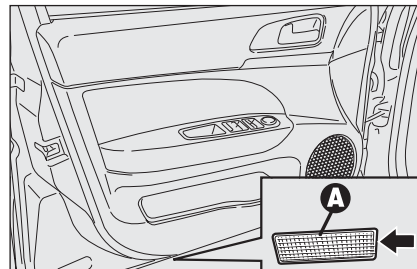
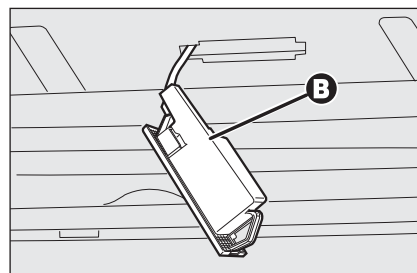

fig. 52
fig. 53
- open the door and remove lens **A-fig. 52** levering in the point shown by the arrow;
- raise protection **B-fig. 53** and replace the snap-fitted bulb;
- close protection **B-fig. 53** on light unit **A-fig. 52**;